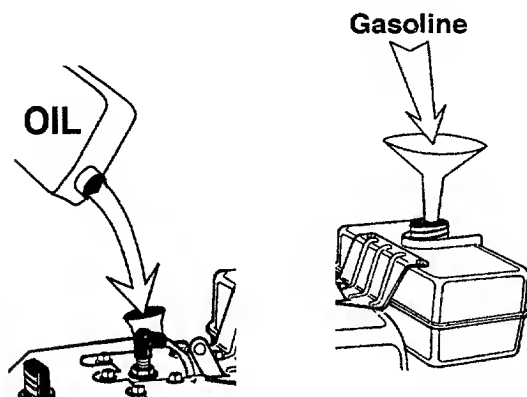

FIGURE 17
- Pour the oil and fill the crankcase to line (Full) on dipstick (19 ounces). See figure 17.
**NOTE:** *Oil must be changed after the first two (2) hours of operation to extend engine life.*
- Fill fuel tank with clean, fresh, unleaded grade automotive gasoline. See figure 17.